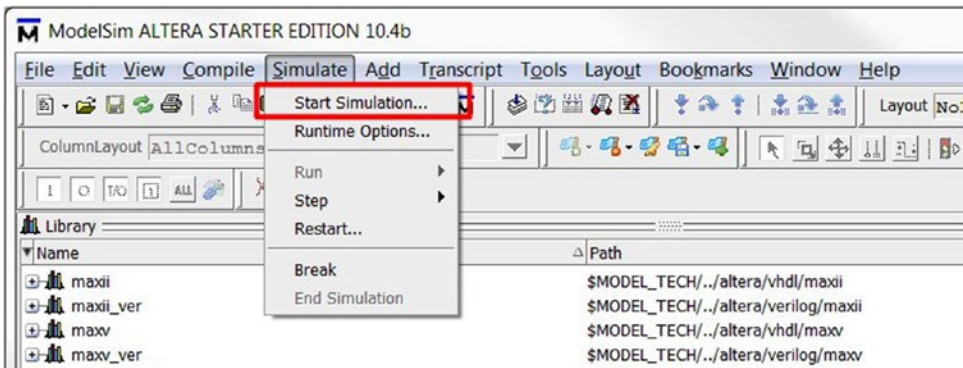

Figure 4-43. Recompile `bemicro_max10_top_vhd_tst`
- 9. Click **Simulate ► Start Simulation...** in the ModelSim menu. It will open the Start Simulation dialog (Figure 4-43).